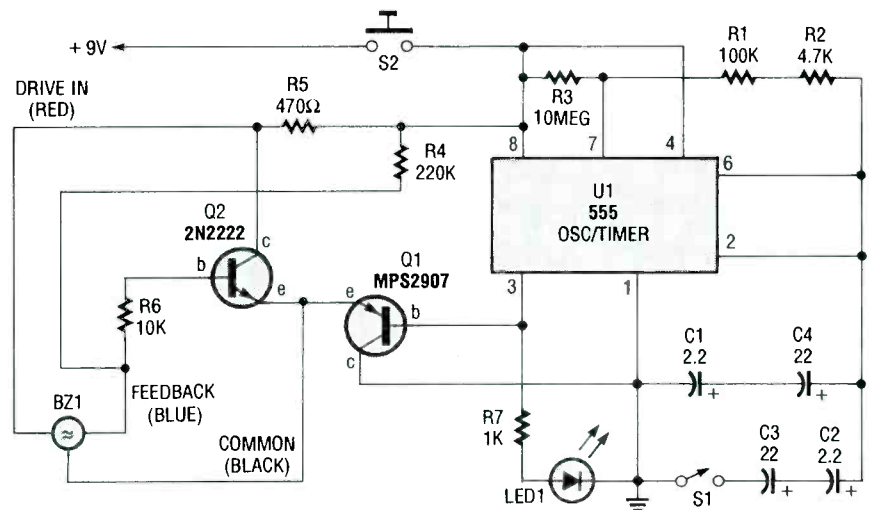

Fig. 1. The Electronic Darkroom Timer is built around a 555 oscillator/timer, a pair of general-purpose transistors, an LED, and a buzzer.
**Frequency Conversion.** Figure 1 shows the schematic diagram of the HPS Converter circuit. The NE602 chip, U1, contains oscillator and mixer stages. The mixer combines the oscillator signal with the input RF (*Radio-Frequency*) signal to produce signals whose frequencies are the sum and difference of the input frequencies. For example, an 8.5-MHz oscillator and a 10-MHz incoming signal will give output signals at 18.5 MHz ( $10 + 8.5$ ) and 1.5 MHz ( $10 - 8.5$ ). Re-
*Fig. 1. The NE602 integrated-circuit chip amplifies the output signal by ten times. Interconnecting leads should be kept short and layout should appear neat for satisfactory operation.*
**About the Circuit.** Figure 1 shows the schematic diagram of the Electronic Darkroom Timer. The circuit is built around a 555 oscillator/timer, a pair of general-purpose transistors, a buzzer, and an LED. The 555 (U1) is configured as an astable multivibrator (free-running oscillator). The frequency of the oscillator is determined by the values of resistors R1–R3 and capacitors C1–C4.
Figure 1 illustrates the bands used to identify the resistance values of low-wattage resistors. Both a normal (A) and a high-precision resistor (B) are shown. The numerical values corresponding to the various colors you can find on a resistor are given in Table 1.
Fig. 1. Here we show the arrangement of bands on both a regular (A) and a high-precision (B) resistor body. Notice the precision resistor has more digits to specify its value more accurately.